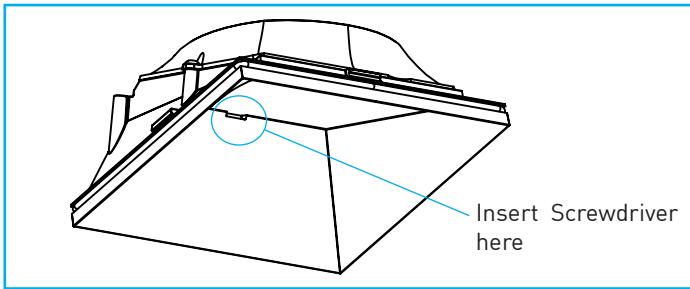

Fig.34
A. Remove baffle. Dry location baffles are removed by lifting lens and pulling down on the top of baffle. Wet location baffles or those with sealed lenses are removed by pulling down on the lens with a suction cup. Wallwash baffles require inserting small flat head screwdriver and carefully prying down as shown in "Fig.34".
- Grasp baffle using soft gloves or with clean soft cloth and remove by pulling down or inserting small flat head screwdriver to wallwash baffles and carefully prying down *"Fig.34"*.